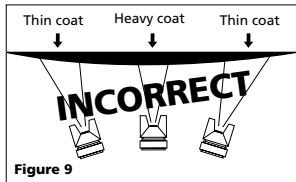

Figure 9
- Keep the nozzle about 6 to 9 inches from the work surface throughout the stroke and always keep the gun in motion while spraying. Stopping gun movement in mid-stroke will cause a build up of paint and result in runs. Do not fan the gun from side to side while painting. This will cause a build-up of paint in the center of the stroke and an insufficient coating at each end (See Figure 9).